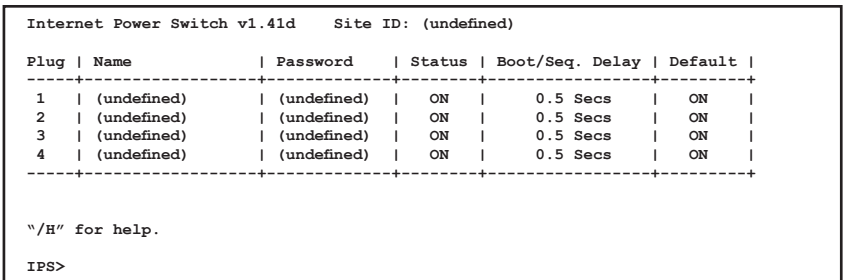

Figure 3.2: Plug Status Screen - Text Interface
- i. **Via Telnet:** Telnet to the IPS's default IP address (192.168.168.168). The Plug Status Screen (Figure 3.2) should be displayed.
- ii. **Via Local PC:** Start your communications program (e.g., Hyperterminal) and then press **[Enter]**. The Plug Status Screen should be displayed as shown in Figure 3.2. The default communications parameters for the Console Port are 9600 bps, No Parity, 8 data bits, One stop bit.